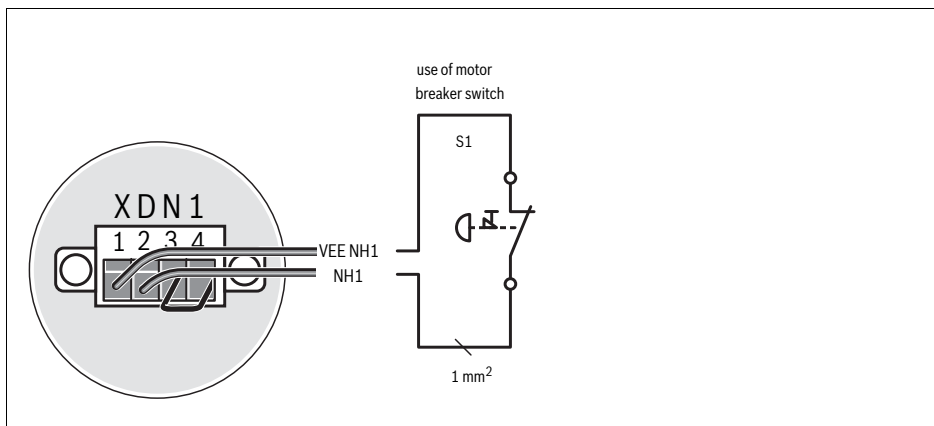

Fig. 8: Motor OFF circuit 1 (NH1) connection to the Compact System
- If you are only using one motor OFF connection option, we recommend implementing the motor OFF function via motor OFF circuit NH1 (see Fig. 8, page 63).